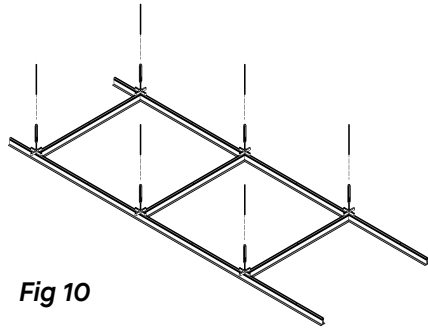
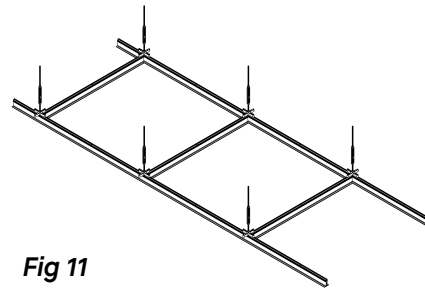

Fig 10
Fig 11
3.5 Raise each module to the threaded rod drops and attach using the turnbuckles (**Fig 10**). Ensure at least three threads are exposed inside the turnbuckle from the ceiling rod drop. Failure to meet this requirement can compromise the integrity of the system. The ceiling height can be adjusted using the turnbuckles (**Fig 11**). After ceiling height is set and leveled, lock the turnbuckle in place using the jamb nut on the threaded starter rod.